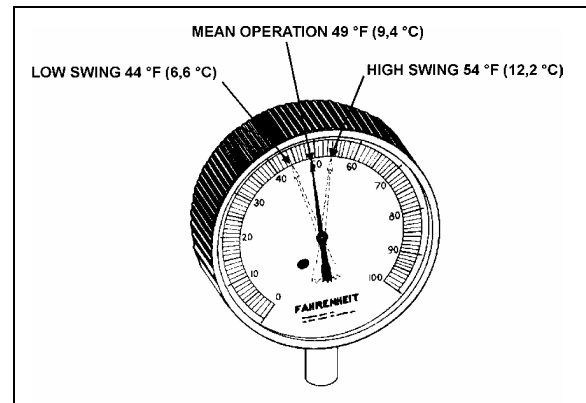

FIGURE 32: HIGH & LOW SWING TEMPERATURE AT REMOTE BULB 22047
6. Check approximately 5 readings of pressure at 2-minute intervals and convert to temperature using the vapor-pressure table (page 36). Likewise check the temperature reading at the remote bulb at the same 2-minute intervals and record the low and high swing readings of the needle (refer to Figure 32).
Example of readings taken at Figure 32: